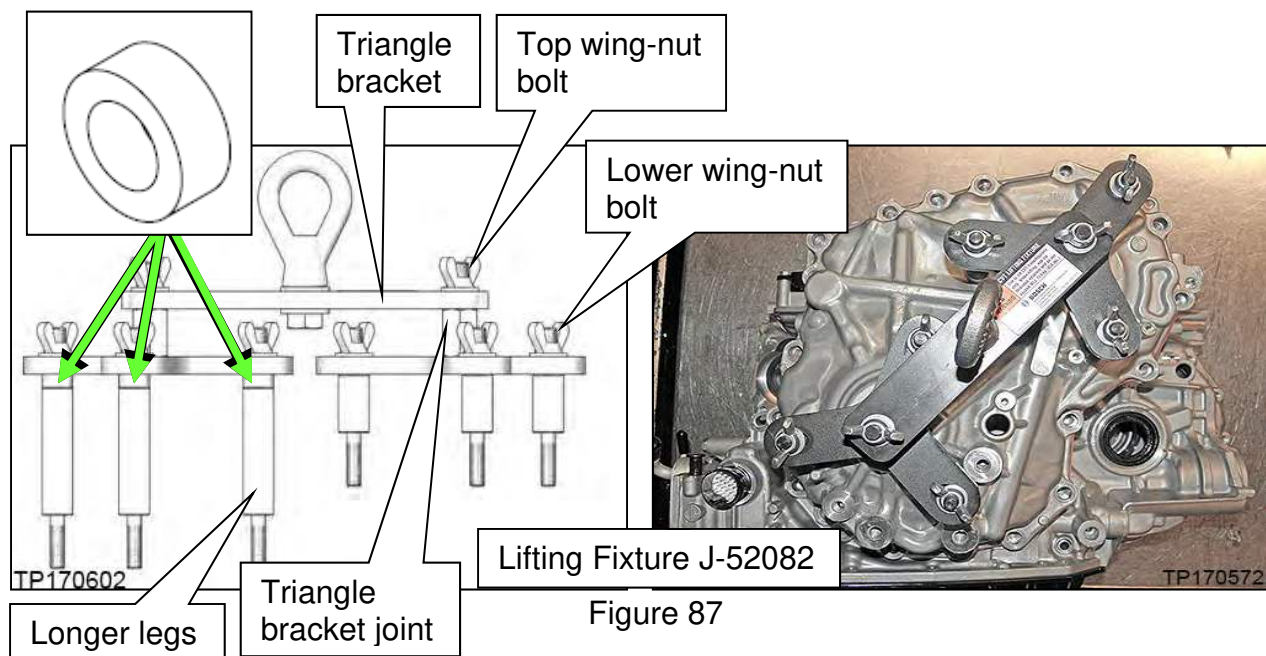

Figure 87
61. Remove the six (6) pulley bracket bolts.
62. Attach universal Lifting Fixture J-52082 with spacers J-52082-2 to the side cover as shown in Figure 87.
- b. Confirm that three (3) spacers (# J-52082-2) are present between the longer legs and triangle bracket as shown in Figure 87.